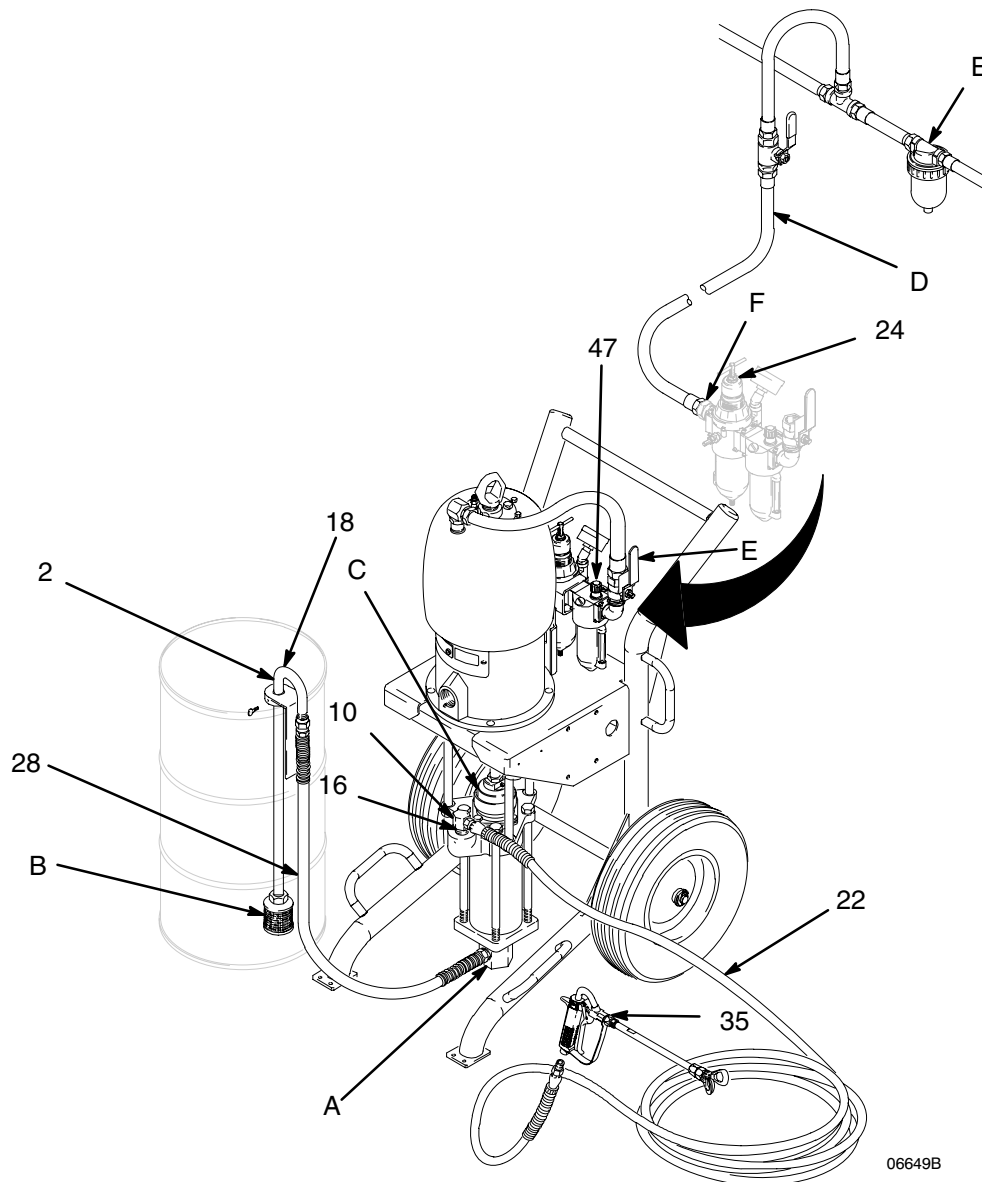

Fig. 2
The typical setup shown in Figure 2 is only a guide to selecting and installing required and optional components. For assistance in designing a system to suit your needs, contact your Graco representative. Refer to Figure 2 for callouts in parentheses.
See Fig. 2. Connect the suction hose (28) between the pump inlet (A) and the suction tube (18), using thread sealant on the male threads. Screw on the suction tube filter (B). Place the suction tube in the supply drum, and adjust it so it is 1 in. (25 mm) off the bottom of the drum. Tighten the thumbscrew (2) of the pipe hanger onto the drum.
See Fig. 2. To start the pump, close the bleed-type master air valve (E), close the air regulator (24) by turning the T-handle all the counterclockwise until the spring tension is relieved. Open the shutoff valve, hold a metal part of the gun firmly to the side of a grounded metal pail, trigger the gun, and slowly open the regulator until fluid comes from the gun. Release the trigger; the pump will stall against pressure.
Keep the displacement pump wet-cup (C) 1/2 full at all times. The TSL helps protect the pump packings. See Fig. 2.